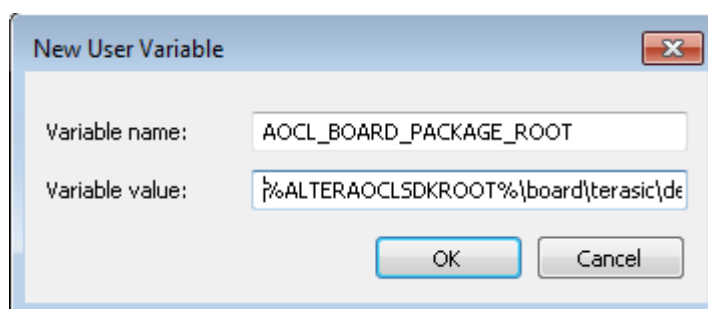

Figure 2-3 Setup AOCL_BOARD_PACKAGE_ROOT Environment Variable
5. In the popup **New User Variable** dialog as shown in **Figure 2-3**, type **"AOCL_BOARD_PACKAGE_ROOT"** in the **Variable name** edit box and type **"%ALTEAOCLSDKROOT%\board\terasic\de5net"** in the **Variable value** edit box.